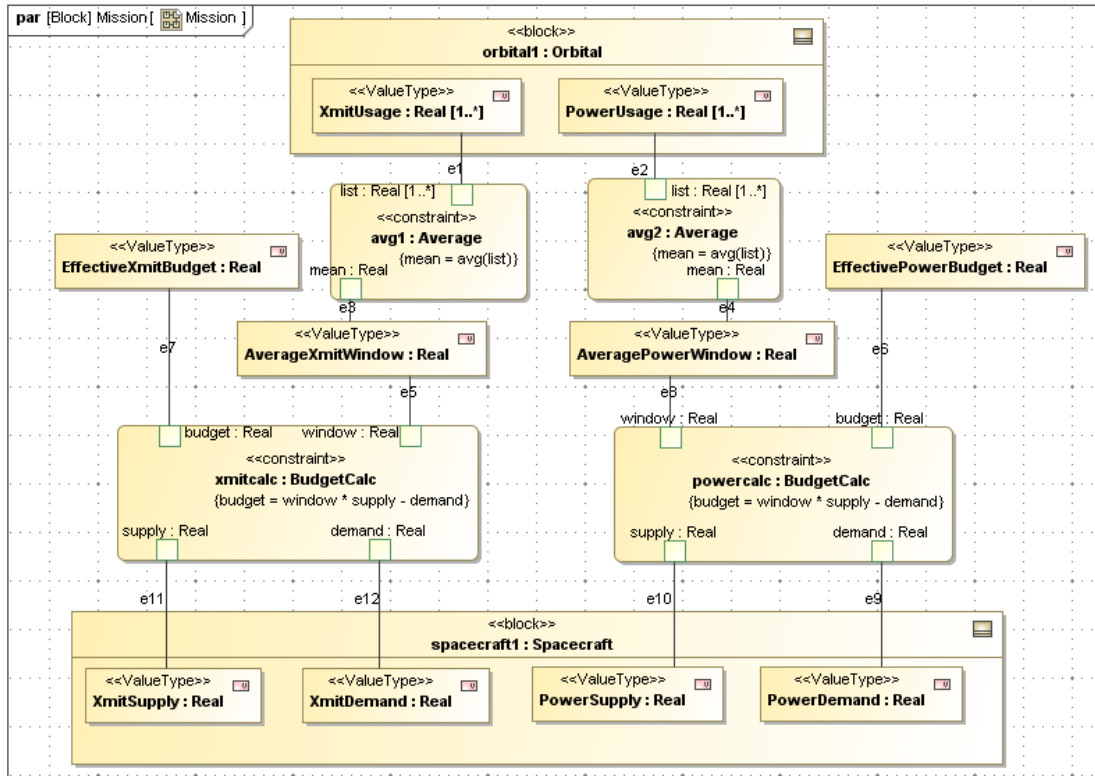

Figure 6.6 Parametric diagram for Mission
7. Create the parametrics diagram shown in Figure 6.6 inside the block Mission. There are two usages of each of the constraint blocks defined in Step 5.